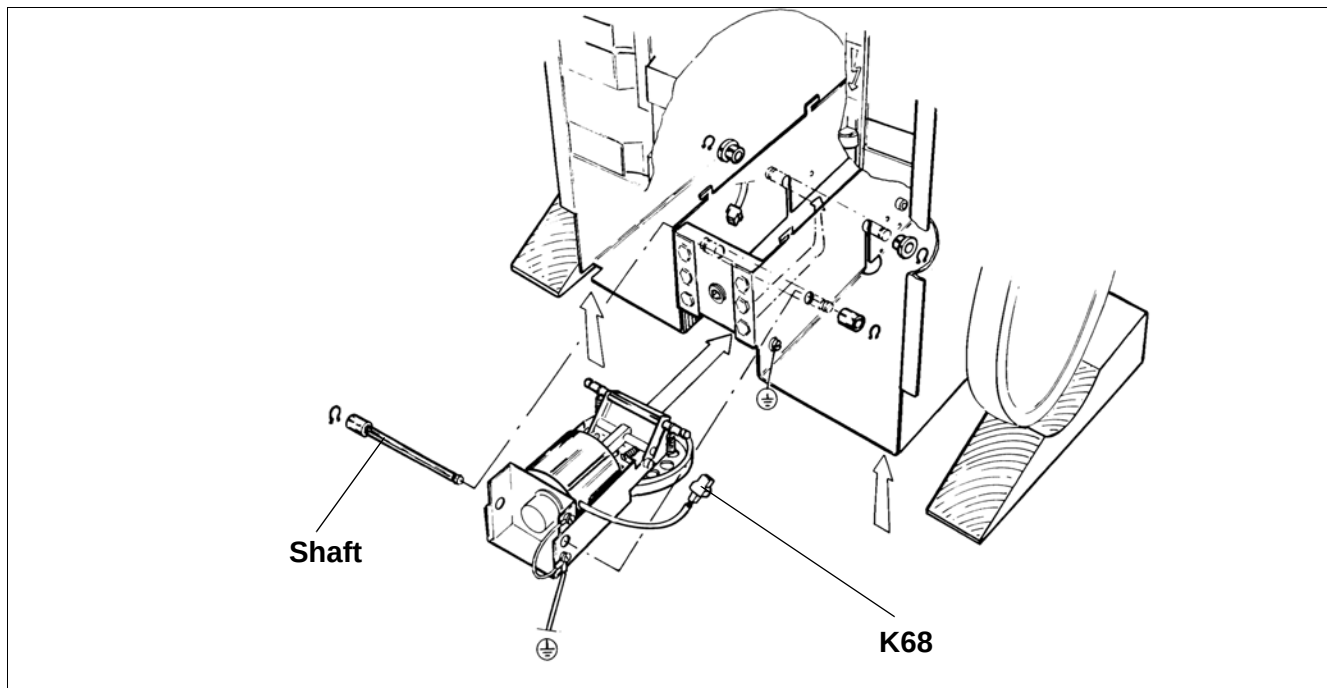

Fig. 11
- Disconnect all cables, ground connections and K68 according to (Fig. 11).